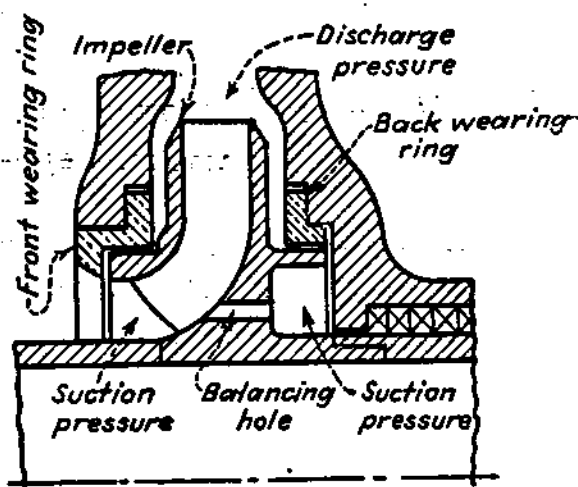
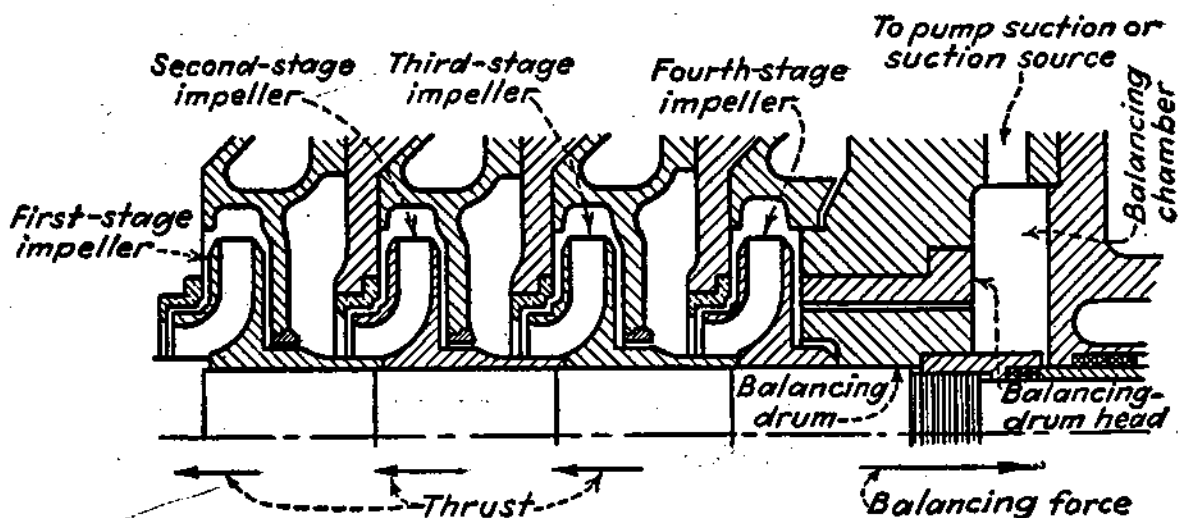
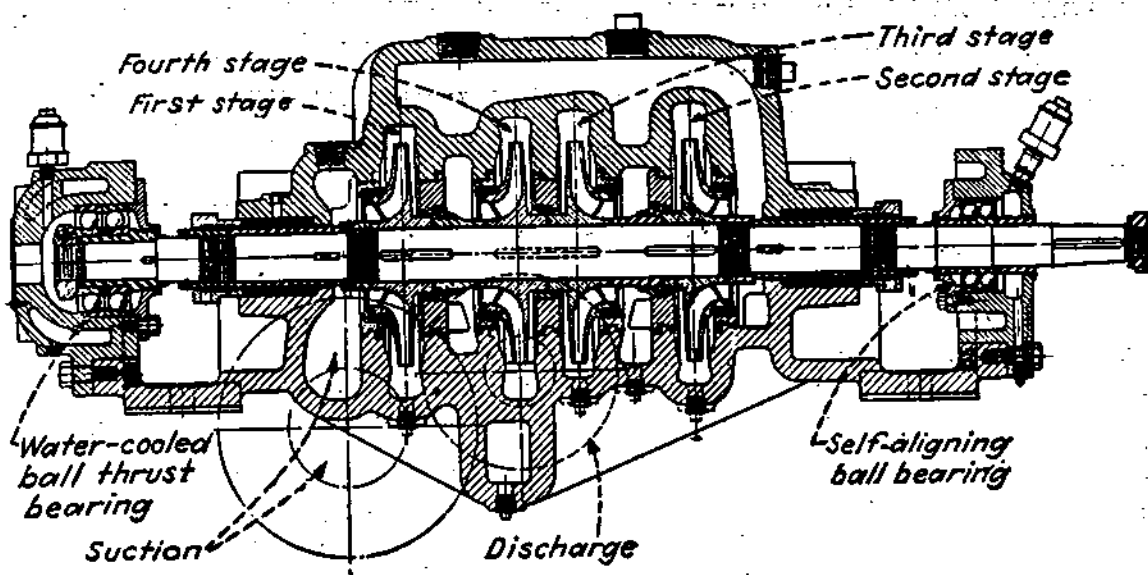

FIG. 1-60. A single-suction impeller with leakage joints of equal diameter on both sides and with balancing holes to obtain hydraulic balance.
FIG. 1-62. Partial section of multistage pump with balancing drum to compensate for axial thrust resulting from unbalanced impellers.
FIG. 1-63. Four-stage pump with two of its single-suction impellers facing opposite the other two to give hydraulic balance.
impeller and by having balancing holes through the latter (Figs. 1-60 and 1-61). In multistage pumps, all impellers may face in the same direction and the pump be provided with a hydraulic balancing device (Fig. 1-62). As an alternative, an even number of impellers may be used and divided into two equal groups. The two groups face in opposite directions (Fig. 1-63), so that the axial thrust of one is practically balanced by that of the other.
1. Several single-suction impellers may be mounted on one shaft, each having its suction facing in the same direction and the stages following in the ascending order (Fig. 1-62). Such a pump requires a hydraulic balancing device.
2. An even number of single-suction impellers are mounted on one shaft, one half facing in one direction and the other half facing in the opposite (Fig. 1-63).
Answer: The rotating part of a radial-clearance hydraulic balancing device (Fig. 1-62) is a balancing drum, and its stationary part is a balancing-drum head.
Answer: The balancing chamber beyond the last-stage impeller (Fig. 1-62) is separated from the pump interior by the balancing drum and drum head. The balancing chamber connects either to the pump suction or to the suction source. Therefore, the balancing-chamber pressure is practically that on the suction, with the discharge pressure acting on the opposite drum face. Then, by proper design a balancing-drum diameter is selected to balance the axial hydraulic thrust completely or to within 90 to 95 per cent, depending on whether the thrust bearing is to carry a portion of the axial thrust.